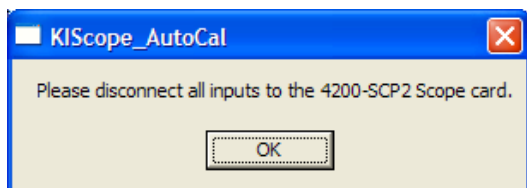

Figure 20. AutocalScope Dialog box.
4. Follow the instructions given on the pop-up dialog box (Figure 20) and disconnect all connections to the 4200 Scope card.